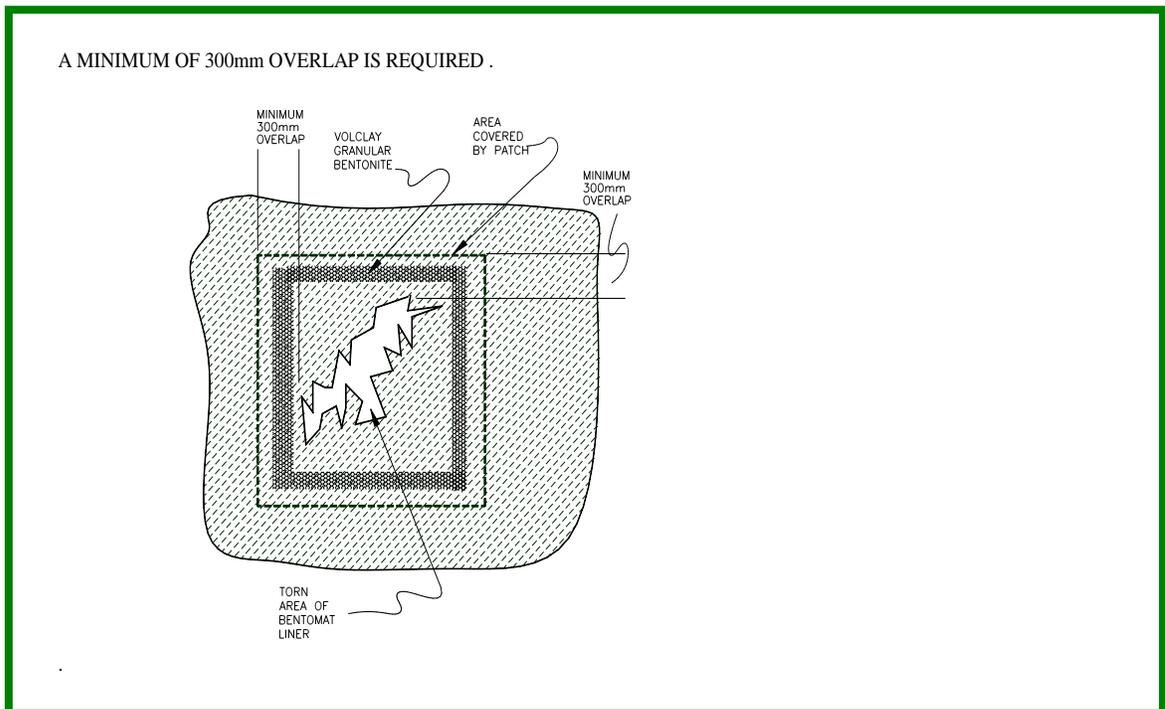

Figure 7. Damage repair by patching.
- 9.1 If the GCL is damaged (torn, punctured, perforated, etc.) during installation, it may be possible to repair it by placing a patch over the damaged area (Figure 7). The patch shall be obtained from a new GCL roll and shall be cut to size such that a minimum overlap of 300 mm is achieved around all parts of the damaged area. Granular bentonite or bentonite mastic should be applied around the damaged area prior to placement of the patch. It may be necessary to use an adhesive such as wood glue to fix the patch in place so that it is not moved during cover placement. Smaller patches also may be tucked *under* the damaged area to prevent patch movement.